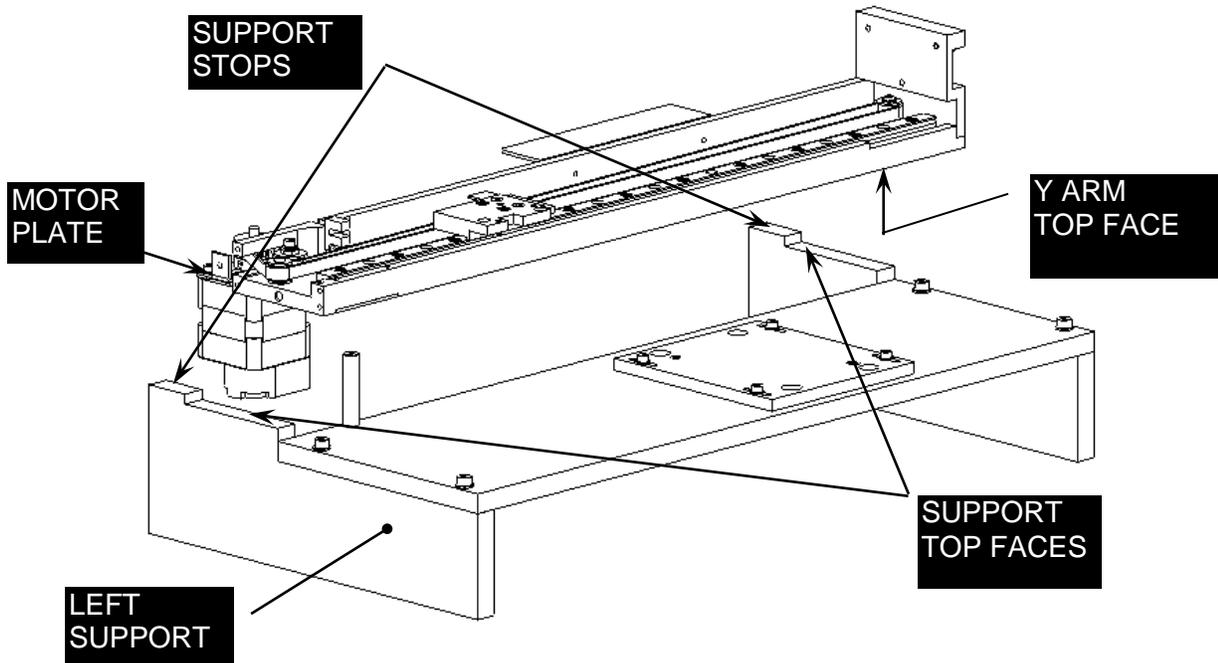

Figure 8-23: Y Assembly on Belt Tensioning Fixture
- Remove the Force Gauge assembly from the Belt Tensioning Fixture (DS2FIX008) and position the Y Drive onto the fixture so that the top face of the Y arm is resting on the top faces of the fixture supports (Figure 8-23).